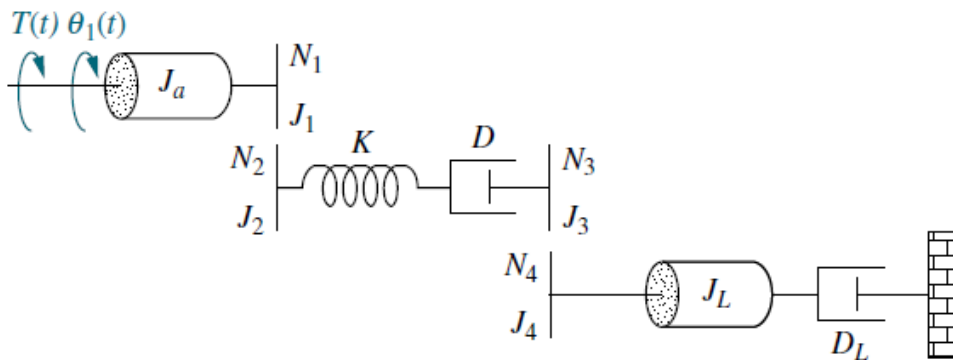

FIGURE P2.23
37. For the rotational system shown in Figure P2.23, write the equations of motion from which the transfer function, $G(s) = \theta_1(s)/T(s)$, can be found. [Section: 2.7]